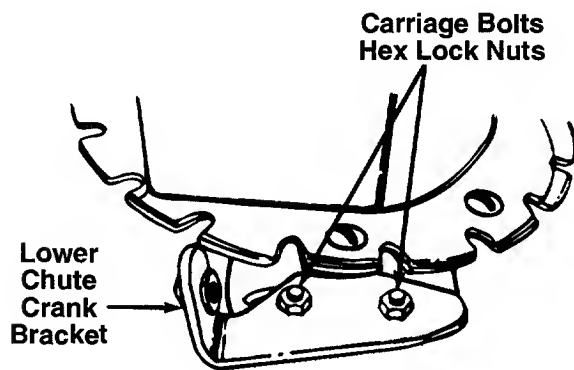

FIGURE 5.
- Loosen the carriage bolts and hex lock nuts which secure the lower chute crank bracket to the extension on the left side of the chute assembly. See figure 5.